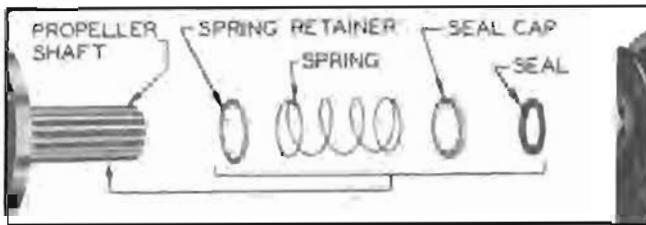

Figure 5-3—Propeller Shaft Spline Oil Seal
On cars equipped with the 3.6 or 3.9 rear axle gear ratio it is necessary to remove the rear axle assembly whenever the propeller shaft must be removed because pinion pullers available for service will not fit over the pinions of these gear sets. Furthermore, on cars with Dynaflo Drive the propeller shaft spline oil seal (fig. 5-3) cannot be properly installed with third member housing connected to the torque ball.
4. On Dynaflo Drive cars, place propeller shaft spline oil seal parts on front end of propeller shaft in the following order: spring retainer, spring, seal cap, oil seal. See figure 5-3. **NOTE:** Install these parts just before connecting torque tube to torque ball. Do not install parts before rolling axle assembly under car.